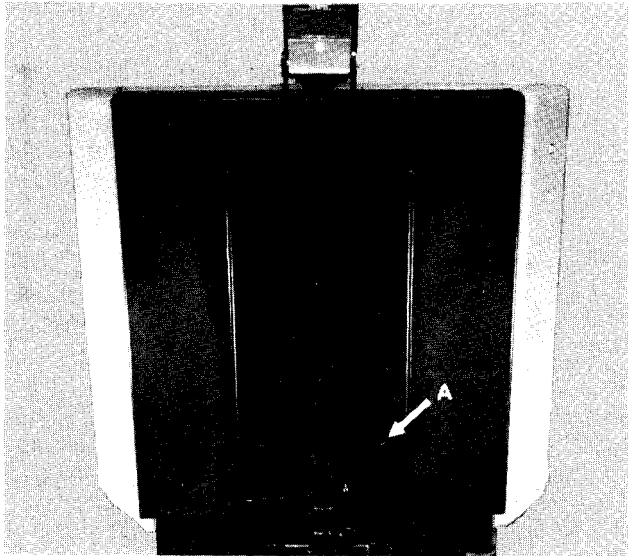

Fig. 19
- 3) Remove cover on back of back section by removing 4 small screws. (Item A, Fig. 19.)
- 5) With the back raising cylinder extended, remove cover on back of back section by removing 4 small screws (Item A, Fig. 19).
- 2) Remove cover on back of back section by removing 4 small screws. (Item A, Fig. 19.)